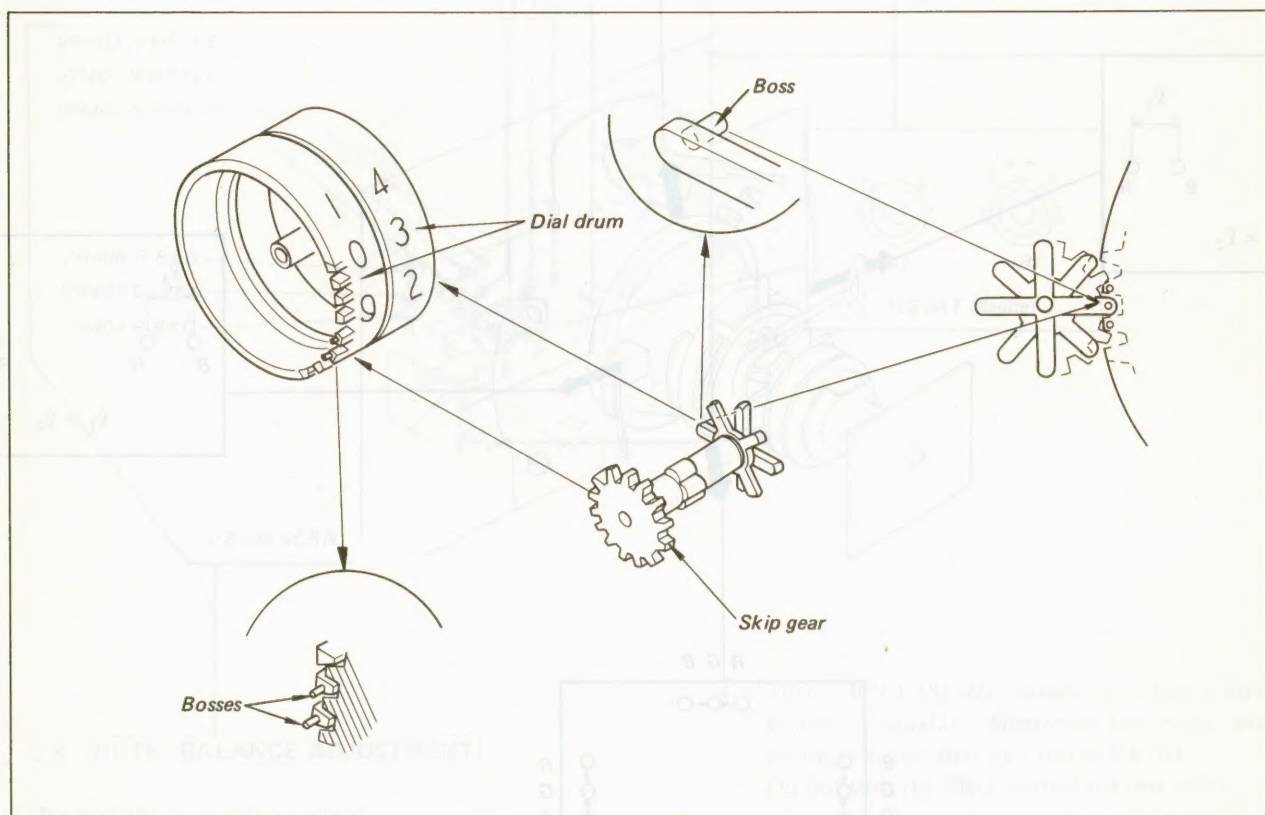

Fig. 2-5. UHF tuner dial calibration (1)
3. Mesh the dial drums with the skip gear as shown in Fig. 2-5.